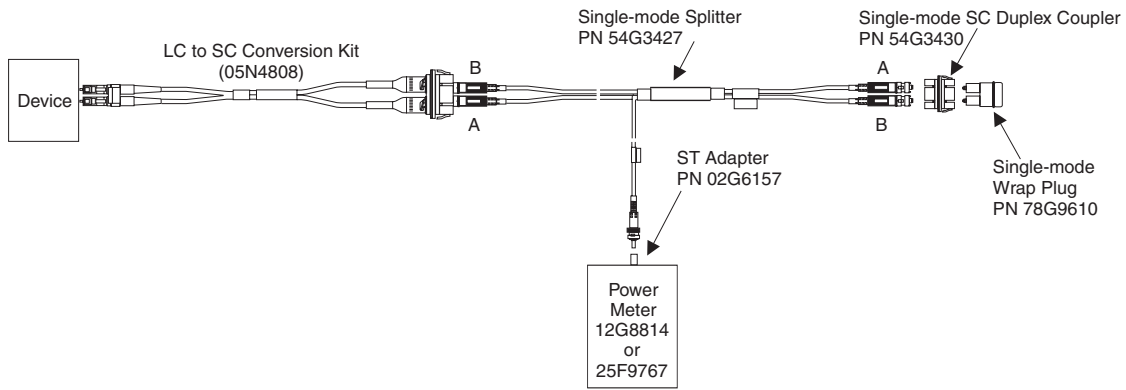
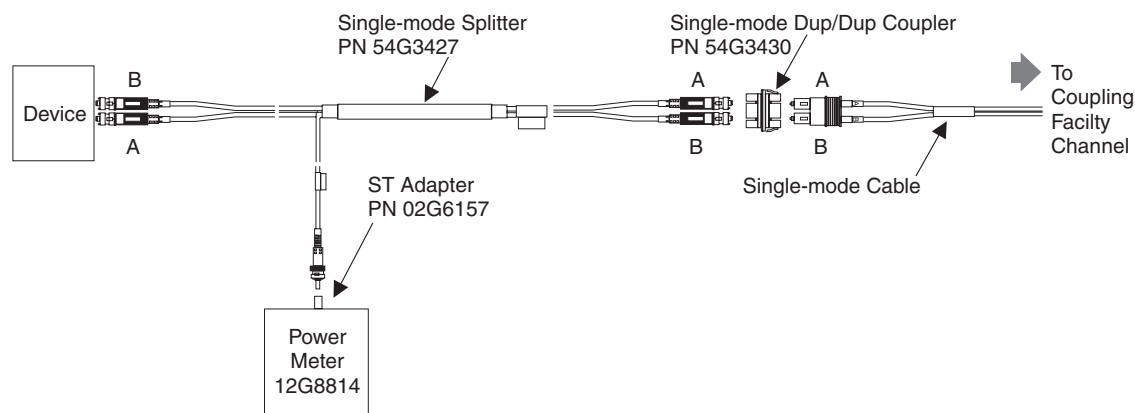
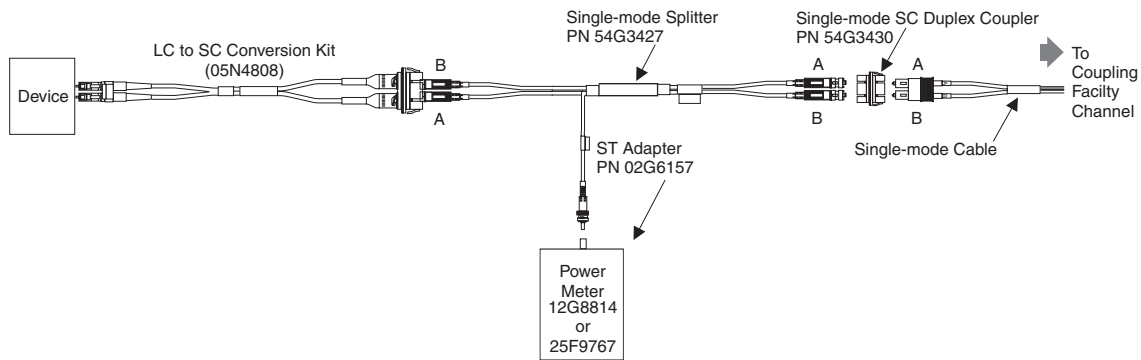

Figure C-15. Measuring Device Transmitter Levels for an ISC3 Operating at Compatibility Mode
Figure C-16. Measuring Receive-In Power for a Single-Mode Coupling Facility Channel Link (ISC Legacy)
Figure C-17. Measuring Receive-In Power for an ISC3 Operating at Compatibility Mode to ISC Legacy Link (ISC3 to ISC Legacy)
For ISC3, connect the LC to SC conversion kit, part number 05N4808, between the splitter and the device (see Figure C-15 on page C-16).
5. If the transmitter power is within specification limits, connect the test equipment (see Figure C-17 on page C-18 or Figure C-15 on page C-16).
Make sure the connectors are clean; then assemble the test equipment (using Figure C-16 or Figure C-17 on page C-18) as follows:
For ISC3, connect the LC to SC conversion kit, part number 05N4808, between the splitter and the device (see Figure C-17 on page C-18).
- If **No**, return to Figure C-16 on page C-17 or Figure C-17 on page C-18 and repeat the procedure for the other device.